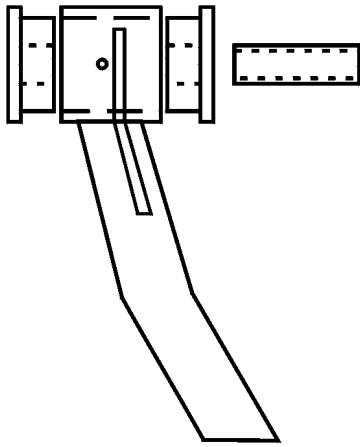

Figure 1
4. Take the UCA marked passenger and install the supplied grease fittings onto the UCA bushing ends. Using the supplied lube, lubricating all parts, press two bushing into each UCA end, followed by one sleeve (four bushings and two sleeves per UCA) as shown in figure 1. On the ball joint cup of the new UCA you will see a 1/4" bolt threaded into the side of it. Unthread the bolt until there is an 1/8" of thread exposed on the inside of the upper ball joint cup. Take the original upper ball joint and place it in the ball joint cup of the new passenger side UCA, lining up one of the notches in the top of the ball joint with the exposed threads of the 1/4" bolt, as shown in figure 2. Keeping the ball joint aligned with the 1/4" bolt, use the ball joint press and press the ball joint into the UCA until fully seated. Unthread the 1/4" bolt until it is flush with the inside of the ball joint cup. Using snap ring pliers, install one of the supplied snap rings into the groove on the inside of the ball joint cup. Make sure the snap ring is fully seated into the groove. Tighten the 1/4" bolt in the side of the upper ball joint cup to 8 ft/lbs..